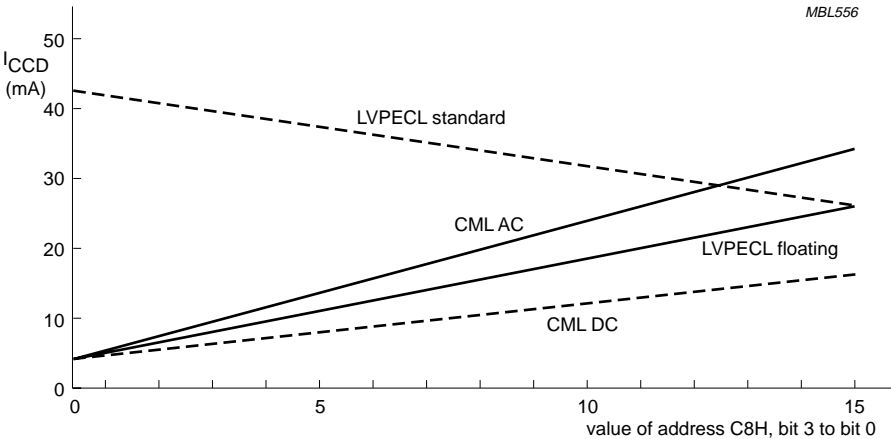

Fig.18 Supply current per parallel output.
- The total supply current and power dissipation is dependent on the I²C settings such as output swing, loop modes, multiplexing ratio and input and output termination conditions. For dependency on output termination and output swing; see Figs 18 and 20.